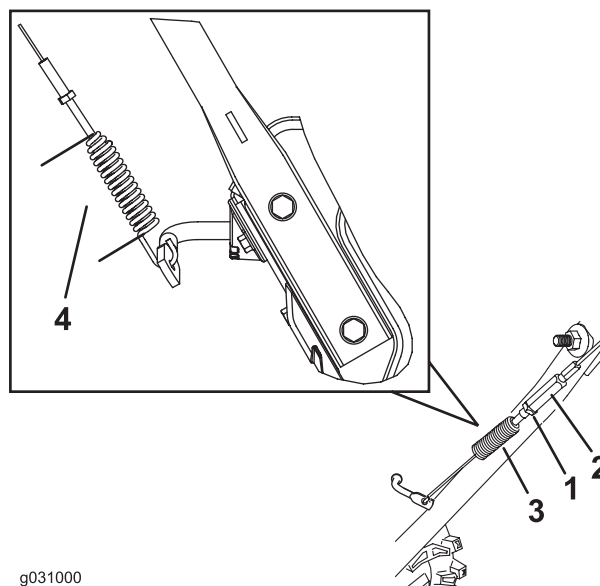

Figure 38
3. Loosen or tighten the turnbuckle to adjust the spring length to 2.75 inches (7 cm) (Figure 38)
4. Tighten the jam nut (Figure 38), ensuring there is slight tension on the cable.